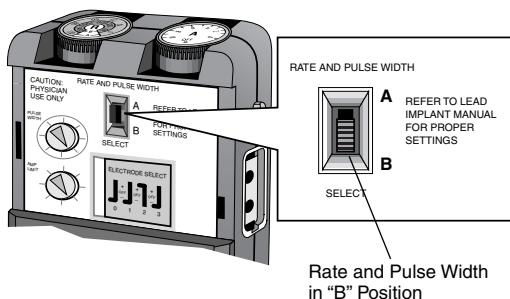

Figure 7. Set Rate and Pulse Width Select to B Position.
- b. Set the **RATE AND PULSE WIDTH SELECT** switch to **B** (Figure 7).